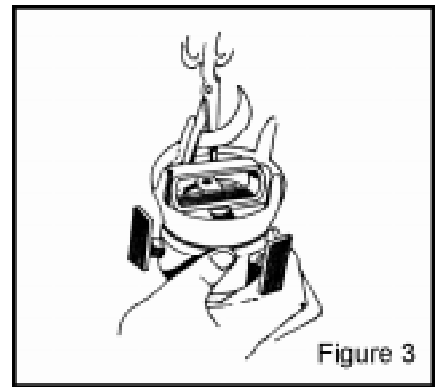

Figure 3
- B) **BE SURE NOT TO TRIM OFF THE 'TABS'.** See figure 3.